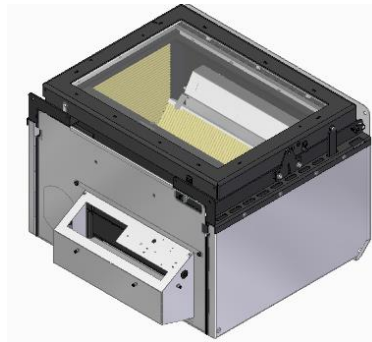

Figure 53 – Removal of the bottom micro-joints
b. Fixing the ventilation kit underneath the equipment, on the bottom, as shown in the picture, see Figure 53.